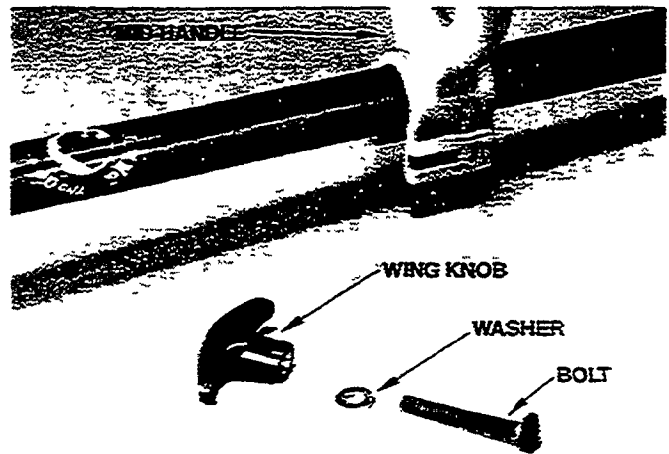

Figure 2
2. INSTALLING MID-HANDLE (Figure 2)
- Install bolt, washer, and wing knob (Figure 2).